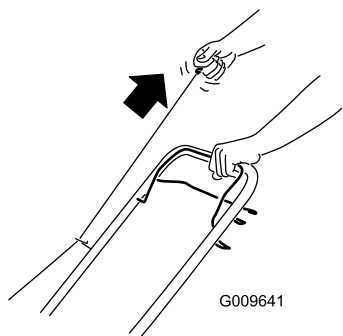

Figure 12
3. Pull recoil start handle (Figure 12).